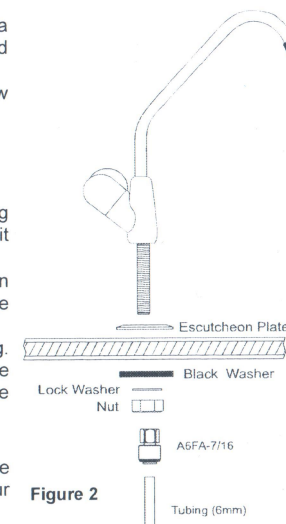

Figure 2
- Assemble faucet in position as shown in Figure 2 and screw **Quick-Fit fitting** (A4FA-7/16) to the bottom of the tap.